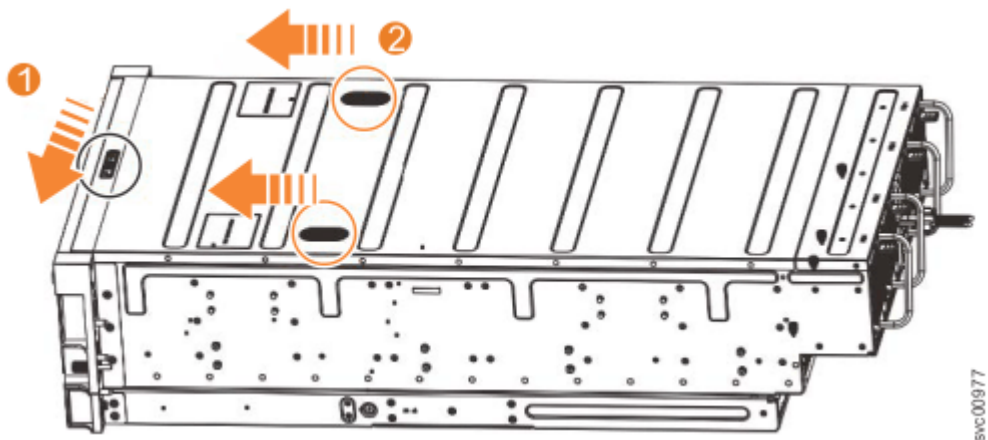

Figure 28. Releasing the 5U expansion enclosure cover
1. Slide the release latch (1) in the direction that is shown in Figure 28 on page 39.
2. Slide the cover toward the front of the expansion enclosure (2), as shown in Figure 28 on page 39.